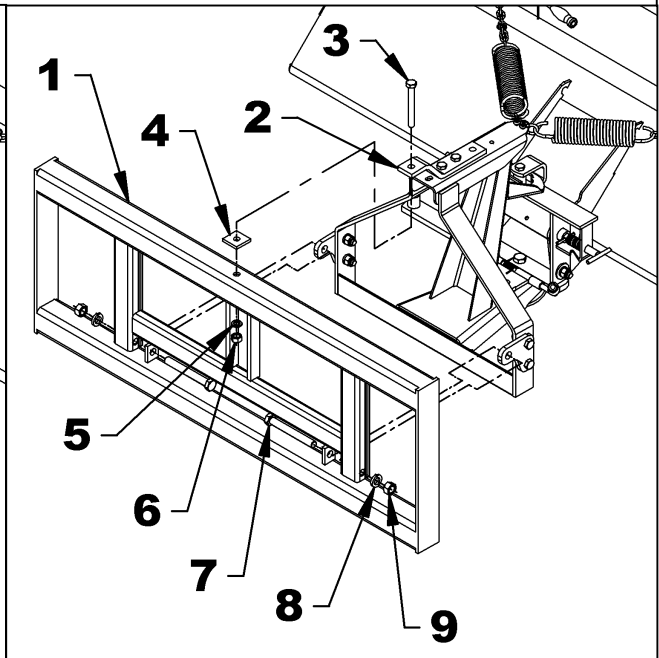

Figure 8B
3. **Figure 8B or 10B:** Attach the lower section of the broom back (item 2) to the hitch (item 1) with two 3/4"NC x 6" lg. hex. bolts (item 7), 3/4" lockwashers (item 8) and 3/4"NC hex. nuts (item 9).
**NOTE :** The items 1, 7, 8 and 9 are provided with the Loader hitch kit #8161.
4. **Figure 8B or 10B:** Attach the upper section of the broom back (item 2) to the hitch (item 1) with the 5/8"NC x 5" lg. hex. bolt (item 3), 2" x 2" x 5/16" spacer (item 4), 5/8" lockwasher (item 5) and 5/8"NC hex. nut (item 6).
**NOTE :** The items 1, 3, 4, 5 and 6 are provided with the Loader hitch kit #8161.